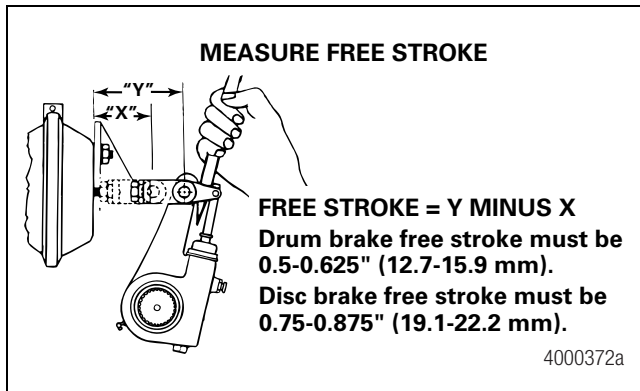

Figure 69
3. Measure the distance from the center of the large clevis pin to the bottom of the air chamber while the brake is released. The measurement you obtain is X in Figure 69.
4. Use a pry bar to move the slack adjuster and position the linings against the drum, brakes applied. Measure the same distance again while the brakes are applied. The measurement you obtain is Y in Figure 69.
5. Subtract X from Y to obtain the in-service free stroke. The measurement must be 0.5-0.625-inch (12.7-15.9 mm) for drum brakes. Figure 69.